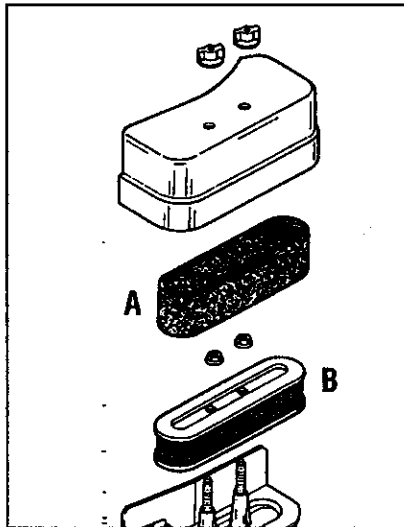

Figure 5-3
**Foam Filter (A, Fig. 5-3):** Wash and re-oil every 3 months or every 25 operating hours. Clean and re-oil daily if used in extremely dusty conditions.
**Paper or Foam/Screen Filters (B, Fig. 5-3):** DO NOT ATTEMPT TO CLEAN OR OIL FILTER. Replace once a year or every 100 operating hours, more often if used in extremely dusty conditions.
### A. To Service Foam Air Filter (A, Figure 5-3)
### A. To Remove and Install Filters (Figure 5-3)